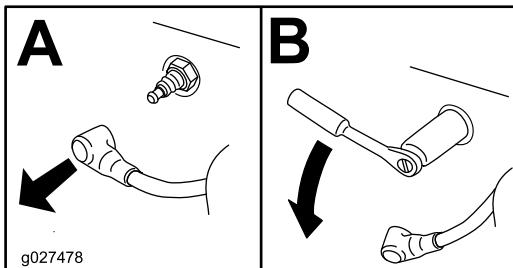

Figure 38
- Remove the spark plug (Figure 38).